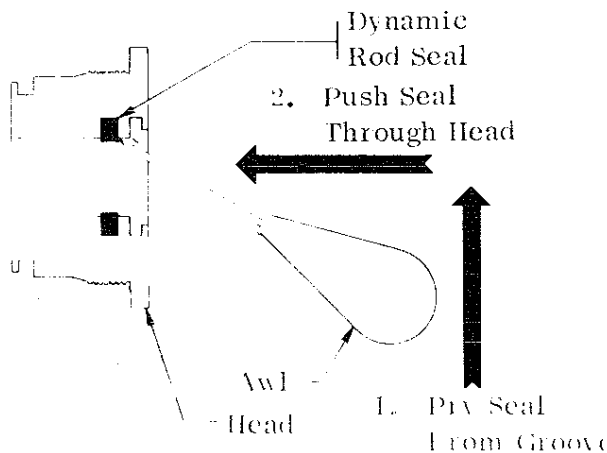

Figure G-4. Dynamic Rod Seal Removal
- 12 Position the head with the top of the head up and puncture the dynamic rod seal (No. 3) with the ice pick. Pry it out of the groove and push it on through the head (Figure G-4).